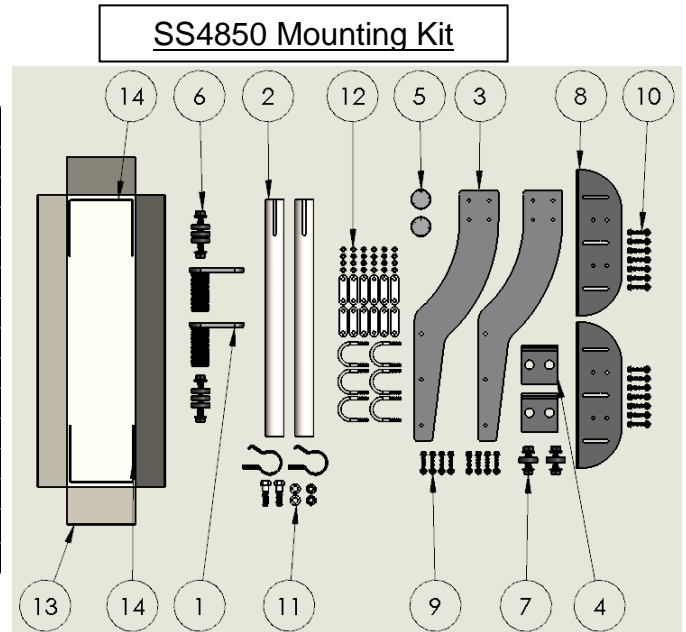

Figure 1
- A. Unpack all cartons and lay out parts shown in Figure 1.
- B. Reference Table 1 and Figure 1 above to identify the parts and confirm quantities.